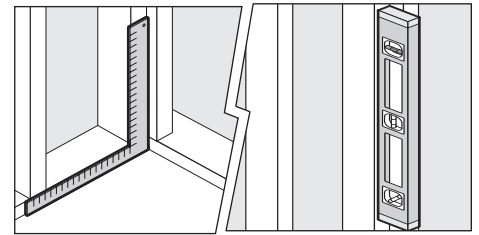

FIGURE 1. Check that studs are plumb with sub-floor/base.
- Alcove should be constructed as shown above. Studs should be plumb and square to sub-floor (Fig 1).